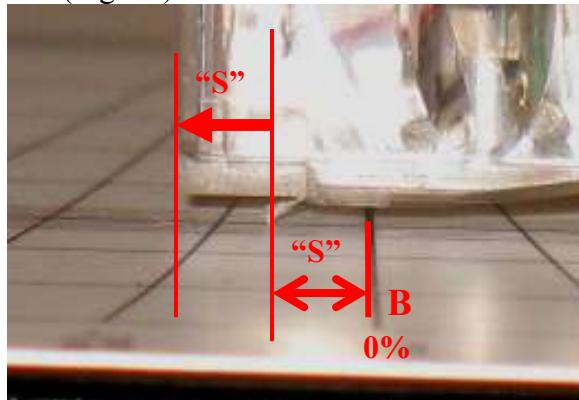

Fig.16 Stylus tip is in front of zero point B.
9. If stylus is in front of point B, pull the cartridge forward (along side) in the slots of the headshell for approximately the same distance "S" as stylus is overhanging zero point B. If it is behind point B, push cartridge backwards towards the pivots of the tonearm for distance "S" (Fig. 16)